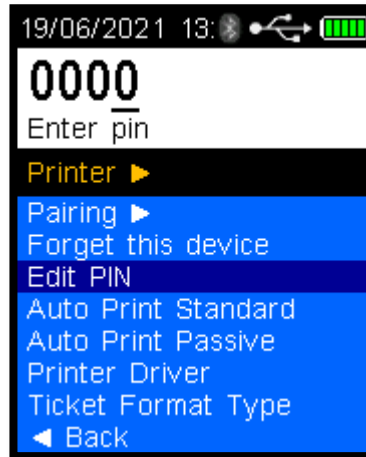

Figure 93 PINs Entered
- Repeat the last two steps until all numbers are displayed as required by the printer (Refer Figure 93).